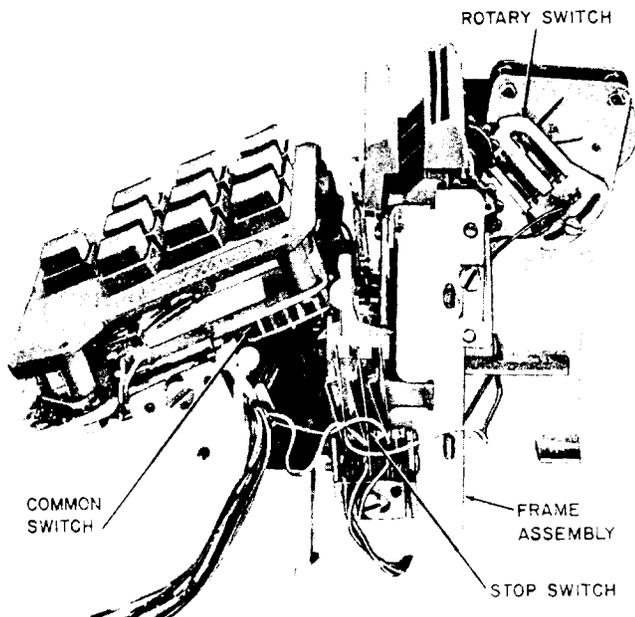
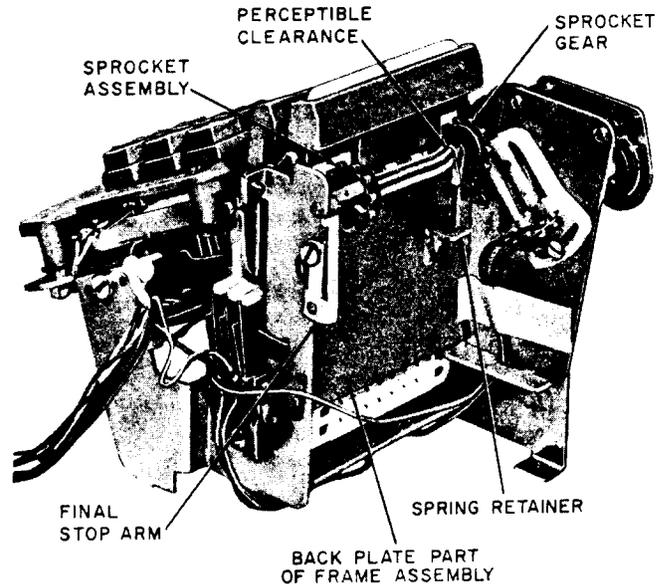

Fig. 3 — 26-Type Dial, Right Side View
Fig. 4 — 26-Type Dial Rear View
- Frame assembly — for positioning in apparatus assemblies (Fig. 3)
- Sprocket assembly — provides motor action (Fig. 4)
- Stop switch — allows manual dialing while card is at any stop position (Fig. 3)
- (1) Inspect card throat for foreign material.
- (2) Place a properly coded test card in throat and depress fully.
- (3) Release START bar, dial tone should be broken and two tones should be heard at each coded line as card advances.
- (4) Stop switch contacts (Fig. 3) must be made while card is advancing and must be open when card is in stop position or at end of run.
- (5) Card drive spring should have consistent tension as the card is lifted. If card rises too slowly check drive spring tension as follows:
- (a) Unwind drive spring by pulling out on final stop arm (Fig. 4) until there is no tension on spring retainer.